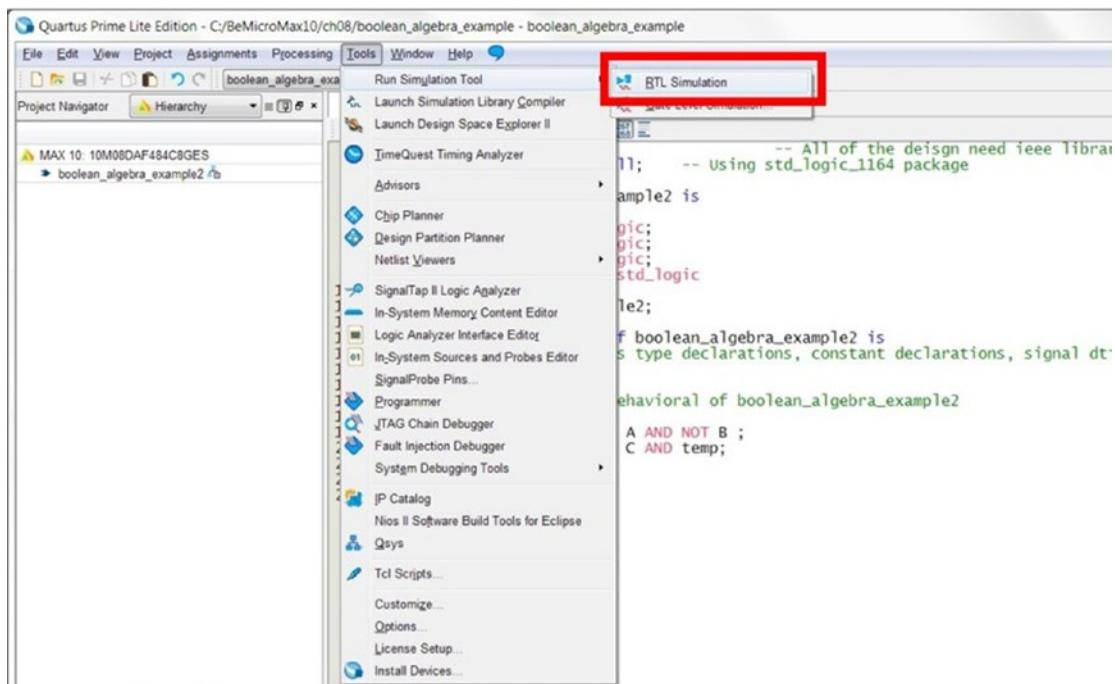
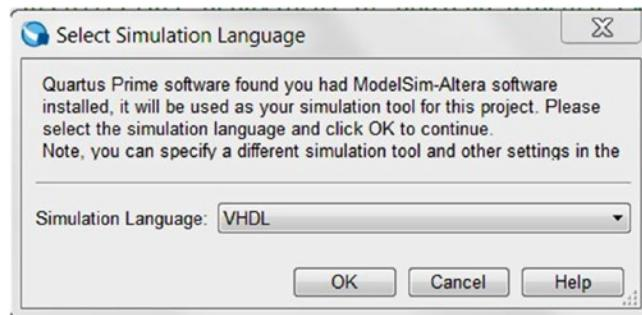

Figure 8-9. Start RTL simulation from Quartus Prime
Figure 8-10. Select Simulation Language
7. Click **Tools > Run Simulation Tool > RTL Simulation** from the Quartus Prime menu to start simulation (Figure 8-9). The Select Simulation Language box will pop up; select **VHDL** and click **OK** (Figure 8-10).